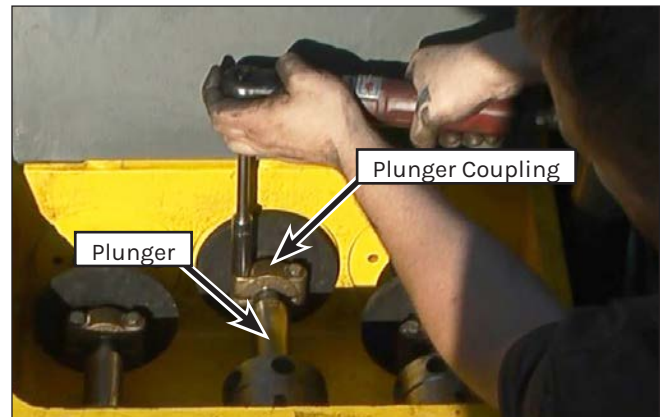

Figure 87: Plunger Coupling Removal.
7. Remove the two bolts that secure the plunger coupling (Figure 87) to the plunger and remove the coupling. Push the plunger into the stuffing box for clearance.